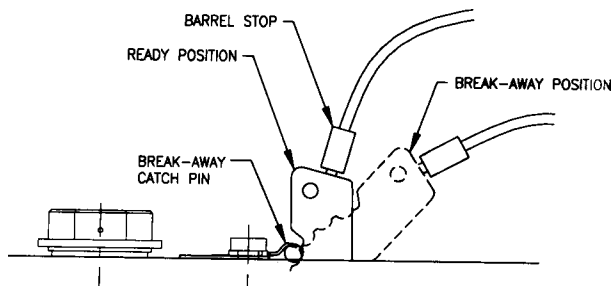

Figure S12: Break-away Cable
- Make sure the break-away lever is fully rotated to the rear with the break-away catch pin securely located under the break-away spring. The break-away catch pin will be in the lever's uppermost notch. See Figure S12.